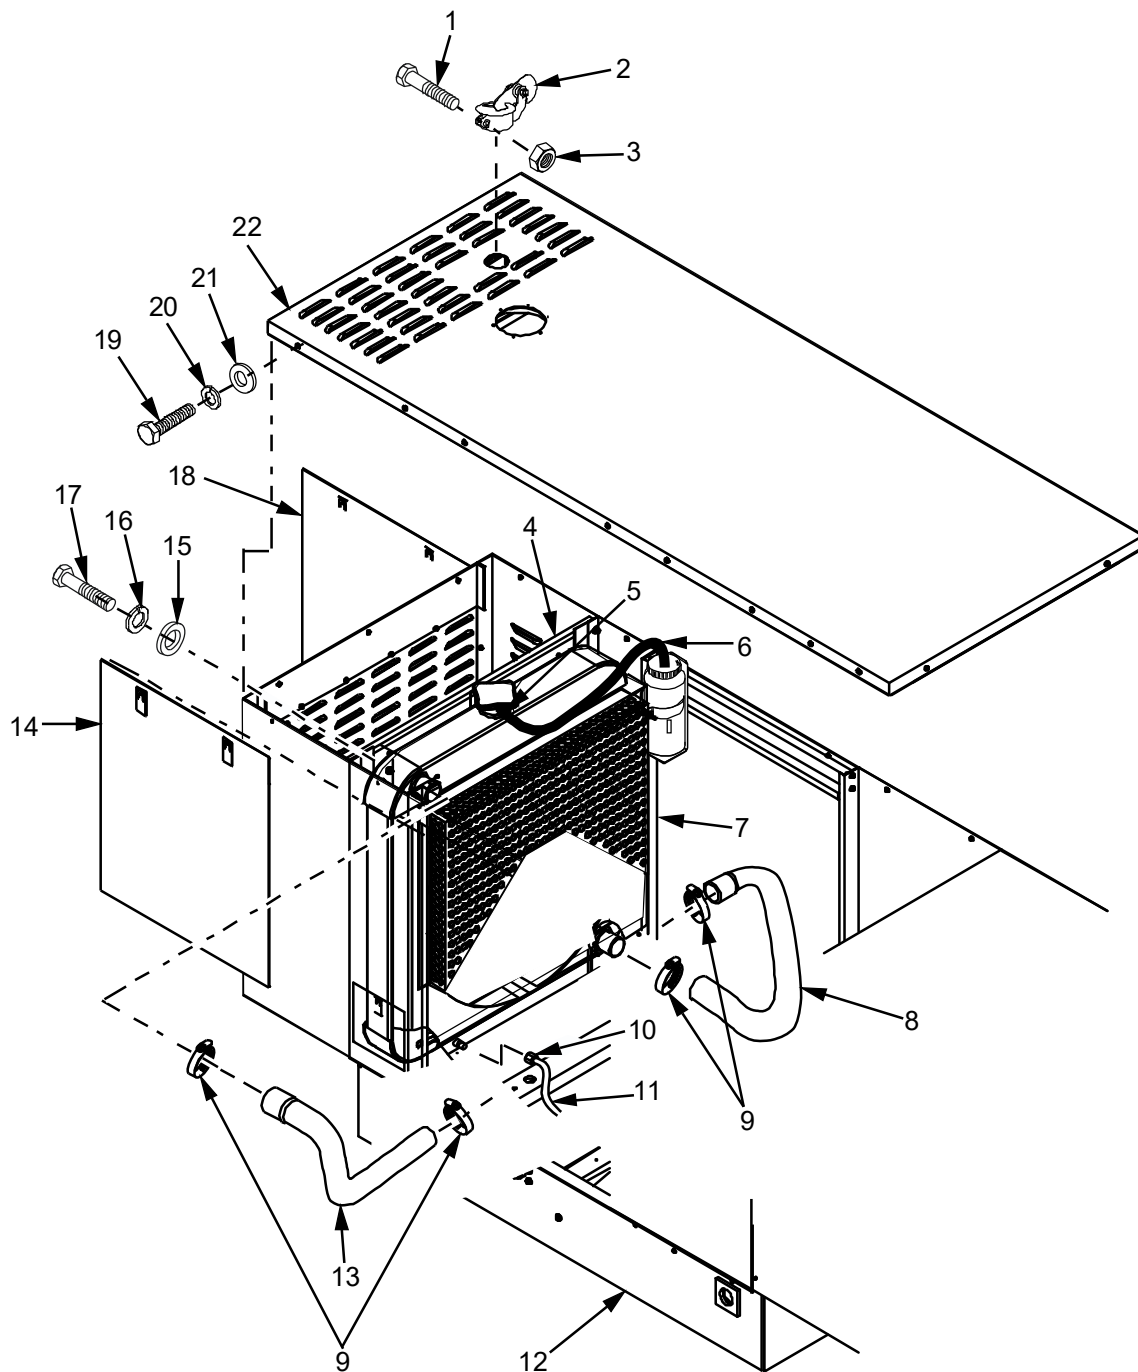

Figure 1. Radiator, Hoses, and Clamps Removal/Replacement.
6. Remove and retain 20 bolts (Figure 1, Item 19), lock washers (Figure 1, Item 20) and flat washers (Figure 1, Item 21), that secures top access panel (Figure 1, Item 22) to Genset (Figure 1, Item 12). Remove top access panel (Figure 1, Item 22) and set aside.
7. Drain coolant from radiator (Figure 1, Item 7) as described in WP 0047.
8. Disconnect overflow hose (Figure 1, Item 5) from radiator (Figure 1, Item 7) and move aside.
10. Loosen clamp (Figure 1, Item 10) and disconnect drain hose (Figure 1, Item 11) from radiator (Figure 1, Item 7).
11. Remove clamps (Figure 1, Items 9) and hoses (Figure 1, Items 8 and 13).
12. Remove and retain six bolts (Figure 1, Item 17), lock washers (Figure 1, Item 16) and flat washers (Figure 1, Item 15) that secure radiator (Figure 1, Item 7) to frame (Figure 1, Item 4).
13. Remove radiator (Figure 1, Item 7) from frame (Figure 1, Item 4).
- If re-using radiator hose(s) (Figure 1, Items 8 and 13), inspect for cracks, swelling, or other obvious deterioration.
- If re-using hose clamps (Figure 1, Item 9), inspect and verify that no damage or other obvious deterioration is present.
Ensure hose clamps (Figure 1, Item 9) are placed on radiator hoses (Figure 1, Items 8 and 13) so that screws will be accessible after installation.
1. Install radiator (Figure 1, Item 7) and secure to frame (Figure 1, Item 4) using six bolts (Figure 1, Item 17), lock washers (Figure 1, Item 16) and flat washers (Figure 1, Item 15),
2. Connect drain hose (Figure 1, Item 11) to radiator (Figure 1, Item 7) and secure with clamp (Figure 1, Item 10).
4. Connect overflow hose (Figure 1, Item 5) to radiator (Figure 1, Item 7).
5. Install hoses (Figure 1, Items 8 and 13) and clamps (Figure 1, Items 9).
6. Add coolant to radiator (Figure 1, Items 7) as described in WP 0020.
8. Install top access panel (Figure 1, Item 22) onto Genset (Figure 1, Item 12) and secure using 20 bolts (Figure 1, Item 19), lock washers (Figure 1, Item 20) and flat washers (Figure 1, Item 21).
9. Install exhaust pipe cap (Figure 1, Item 2) and tighten nut (Figure 1, Item 3) and bolt (Figure 1, Item 1) that secure exhaust pipe cap (Figure 1, Item 2).
10. Start Genset (Figure 1, Items 12) in accordance with Genset Start Procedure (WP 0005). Run for 15 minutes until operational temperature.
12. Replace front and rear access panels (Figure 1, Items 14 and 18) on Genset (Figure 1, Item 12).